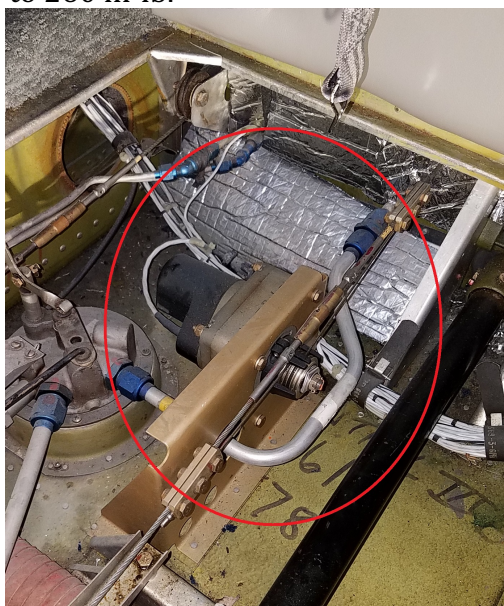

Figure 2-2
- 1.3. Some aircraft have a fuel line routed as shown in Figure 2-2. If this style line is present remove and replace with the PA-32 Fuel Line (7200-109). Torque both nuts to 230 to 260 in-lb.